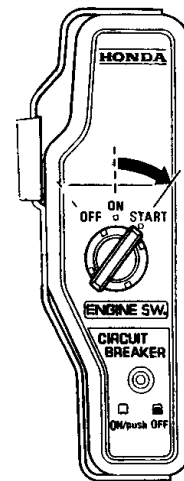
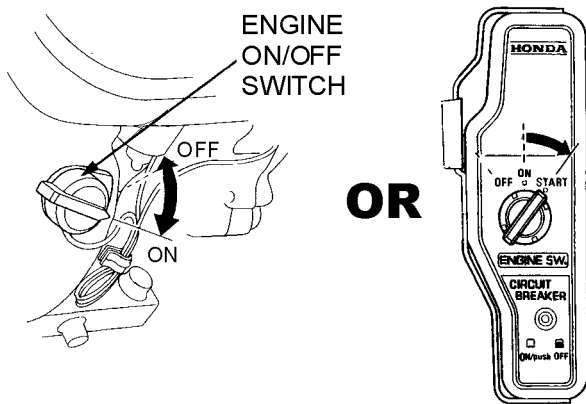

Figure 12. Engine ON/OFF Switch (Electric Start)
Figure 13. Engine ON/OFF Switch (Recoil Start)
6. Place the engine ON/OFF switch (Figure 12) in the ON position.
2. Place the Engine ON/OFF switch (Figure 13) in the ON position.
4. Turn the engine on/off switch (Figure 12 or Figure 13) to the OFF position to shut down the engine.
3. Turn the ignition switch (Figure 12) to the OFF position.